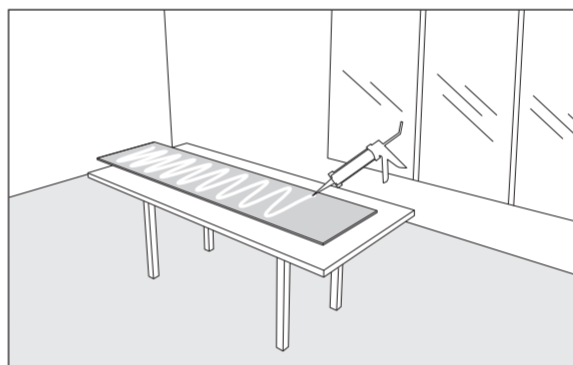

Fig.17
- You can apply adhesive to the back of the mineral core wall panel or apply it directly to the wall surface. (Fig.17 and 18)
- You can apply adhesive to the back of the mineral core wall panel or apply it directly to the wall surface. (Repeat Fig.17 and 18)